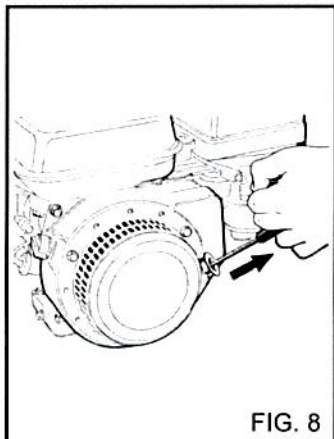

FIG. 8
4) Start up the engine by pulling the automatic take-up chord (fig. 8).